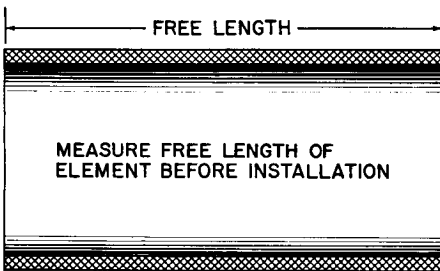
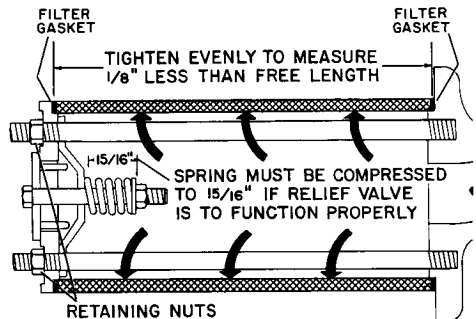

Figure 17
Figure 18
1. Measure the free length of the new filter before installation, Figure 17.
2. Tighten the retaining nuts down evenly, Figure 18, until the element measures $1/8$ of an inch less than in number 1 above. (Figure 17).
DO NOT COMPRESS THE FILTER ELEMENT MORE THAN $1/8$ " AS IT WILL CRUSH AND LOSE ITS FILTERING ABILITY. REFER TO FIGURE 18.
A relief valve, Figure 18, is incorporated into the filter element to prevent cold oil from damaging the filter element. If this relief valve spring is not properly compressed to $15/16$ " as illustrated in Figure 18, it either will allow unfiltered oil to flow into the hydraulic system or cold oil may damage the element - check this adjustment when servicing the filter element.